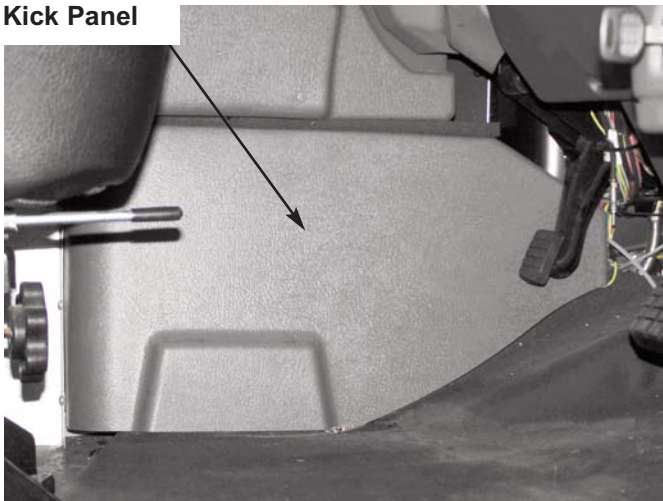

Figure 5
3. Remove the lower kick and trim panels under the switch cabinet to gain access to power cable pass-thru studs. **Figures 5 and 6**